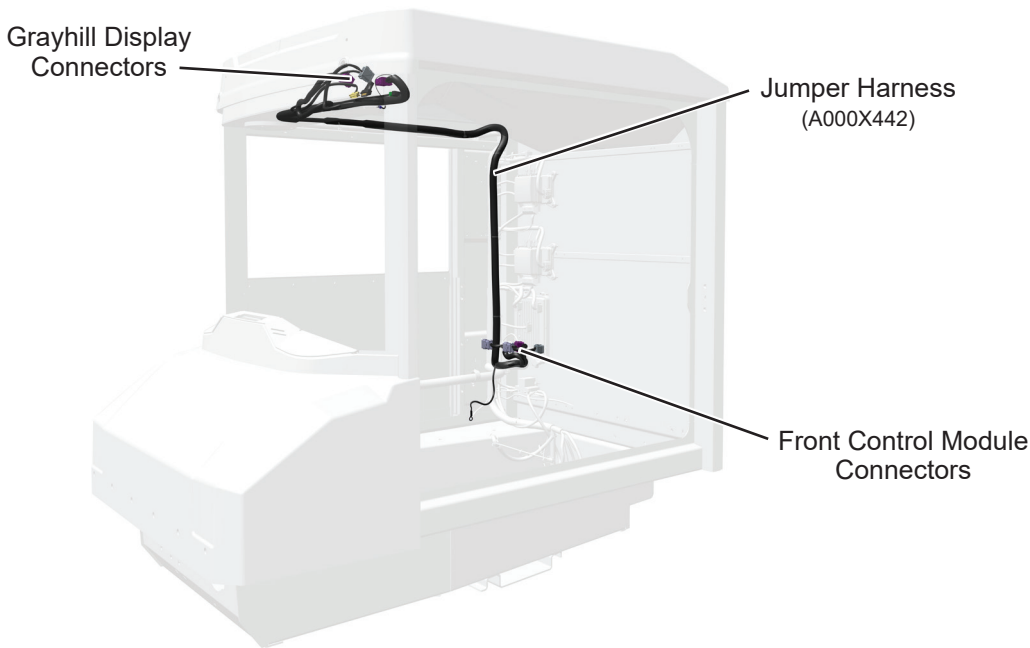

Figure 11
19. Install jumper harness (A000X442) starting in upper raceway. See Figure 11. Route front control module connectors C155A and C155B end of harness into electrical cabinet and down to front control module (FCM).
20. Route display connectors C1529, C1530, and C1538 end of harness into overhead console. See Figure 11.